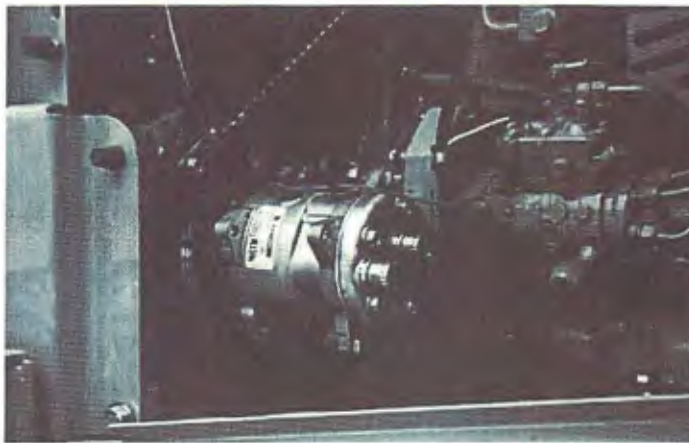

Figure 3
6. Loosely attach compressor to compressor mount as shown in figure 3.